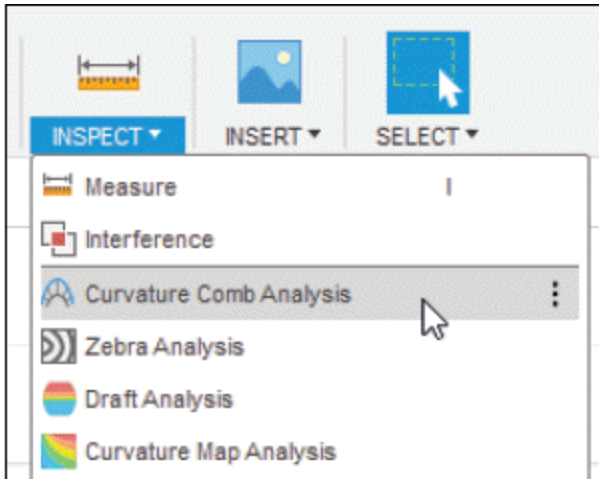
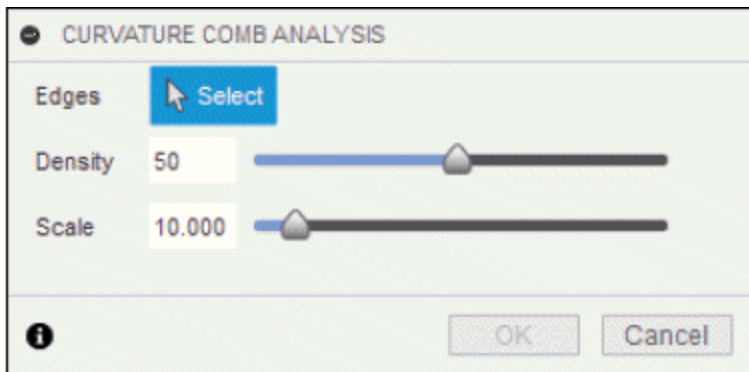

Figure-41. Curvature Comb Analysis tool
Figure-42. CURVATURE COMB ANALYSIS dialog box
- Click on the **Curvature Comb Analysis** tool of **INSPECT** drop-down from **Toolbar**; refer to Figure-41. The **CURVATURE COMB ANALYSIS** dialog box will be displayed; refer to Figure-42.